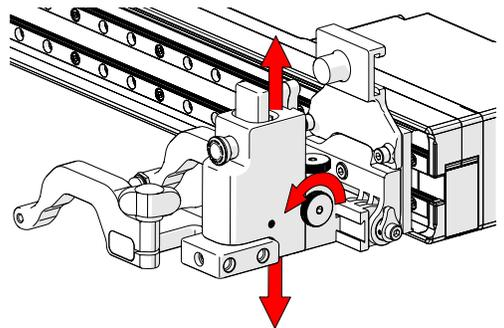

Fig. 107 - Vertical adjustment
2. The vertical adjustment knob (*Fig. 107*) allows the heavy duty vertical probe holder's height adjustment. This adjustment also controls the probe holders spring tension.